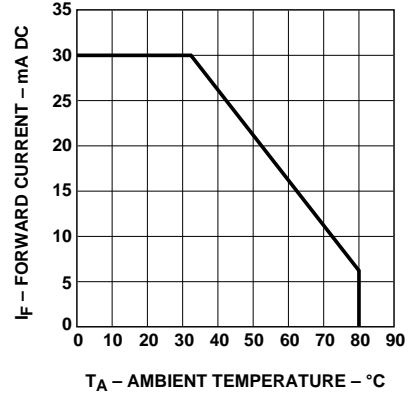

Figure 6. Maximum DC Forward Current vs. Ambient Temperature. Derating Based on T_J Max. = 115 °C.
- Derate linearly from 50 $^\circ\text{C}$ as shown in Figure 6.